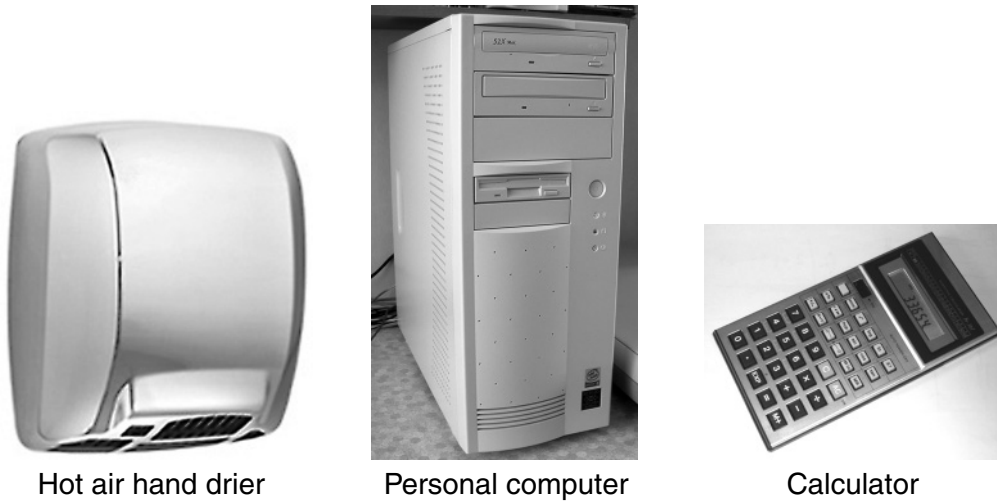

Fig. 1
- 1 Many of the items used in modern life make use of electronic circuits. Three examples are shown in Fig. 1.